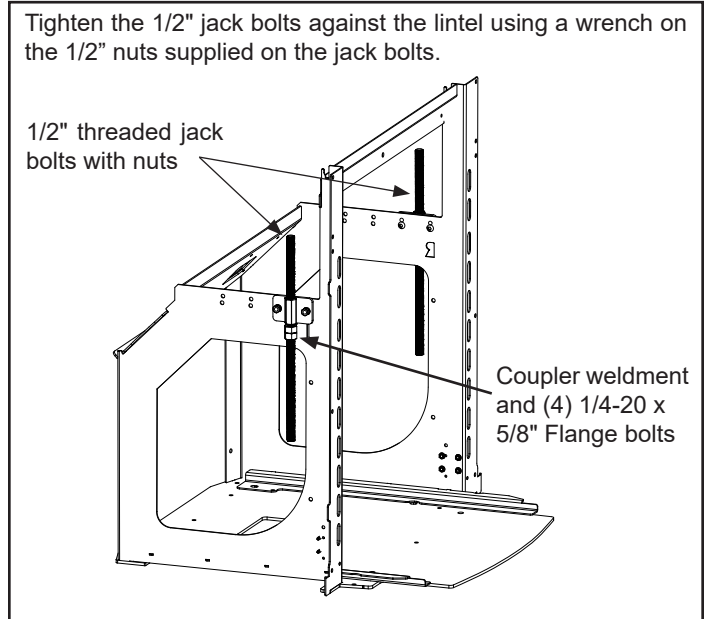

Figure 5.3 - Install jack bolts
Install the coupler nut weldments to the frame in the hole location that suits your needs with the (4) 1/4-20 x 5/8 flange screws and nuts and 1/2" jack bolts., Figure 5.3.